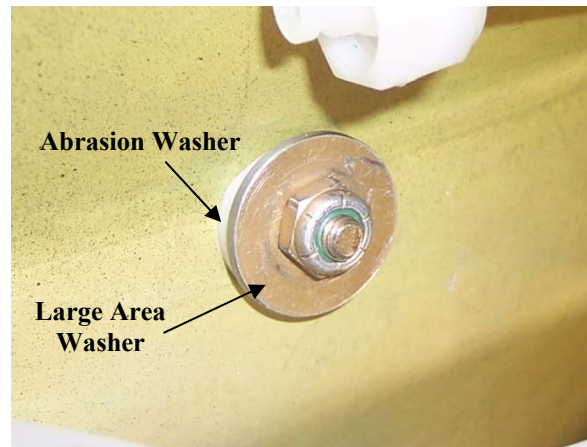

Figure 5-10: Lower Screw Installed (Inside View)
13. Using RTV sealant (P/N RTV732-10-30ZCL), wet install the screw (P/N AN525-10R14 or P/N AN525-10R18) on the outside. On the inside, install the abrasion washer (P/N 100-210-7115), large area washer (P/N AN970-3), and nut (P/N MS21083N3) (refer to **Figure 5-10**).